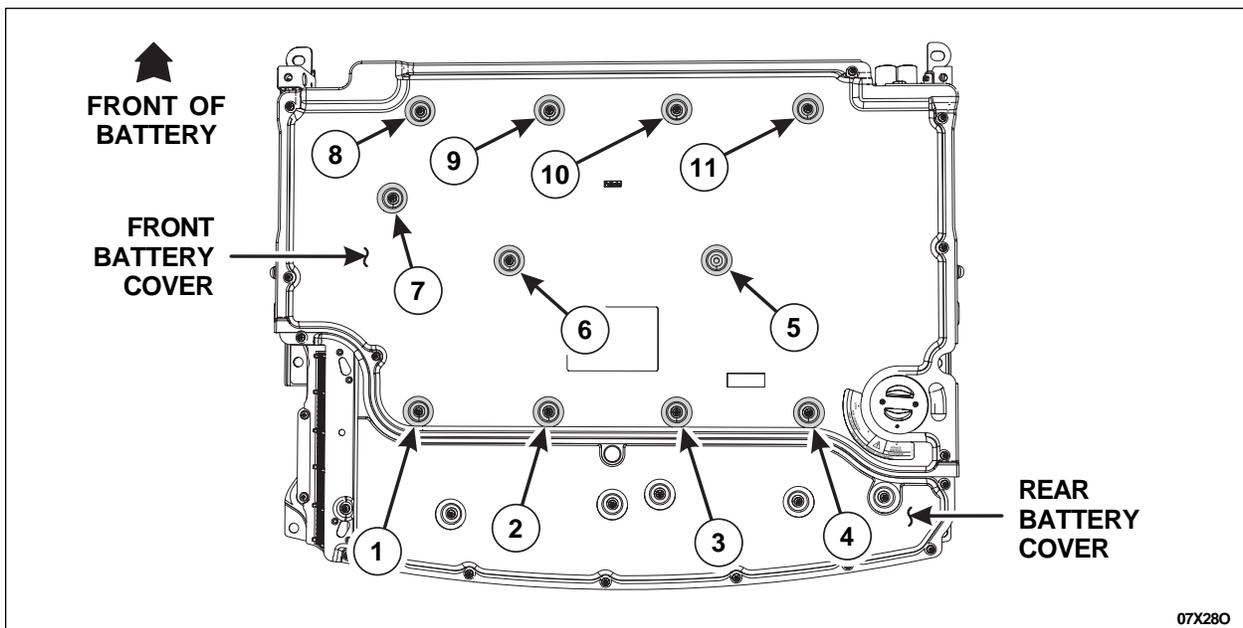

FIGURE 17
25. Tighten 11 of the 18 Torx screws in the front battery cover to 5.2 Nm (46 lb-in) in the sequence shown in Figure 17.